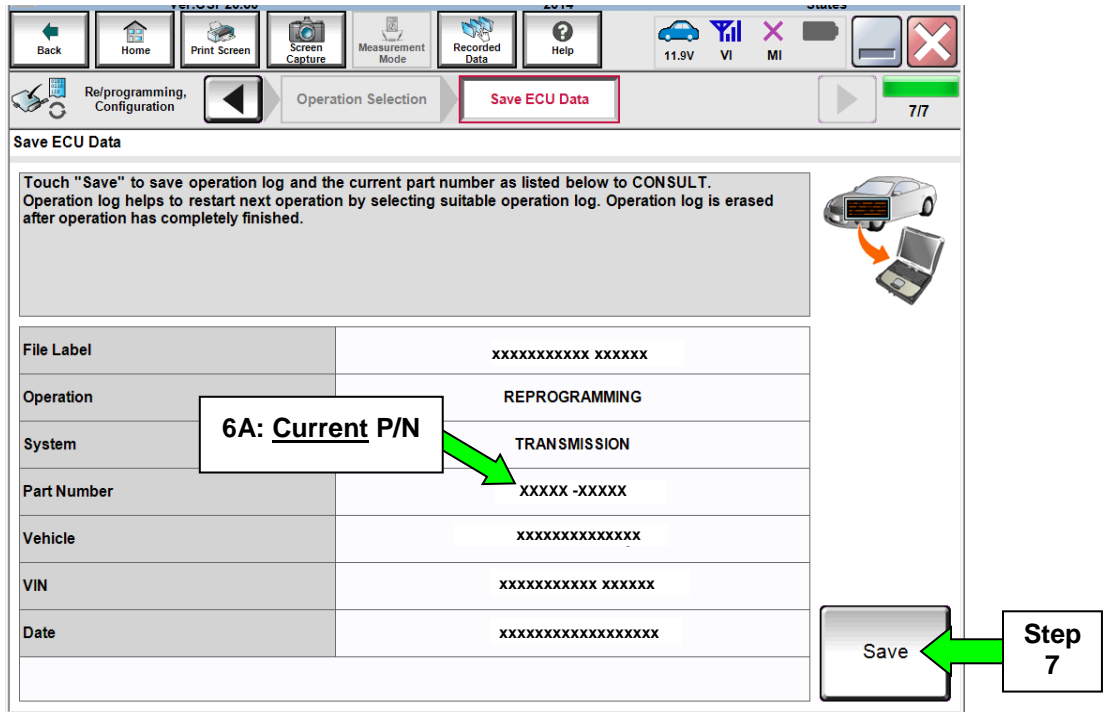

Figure 2
5. Follow the on-screen instructions and navigate C-III plus to the screen shown in Figure 2 below.
6. When you get to the screen shown in Figure 2, confirm TCM reprogram applies as follows.